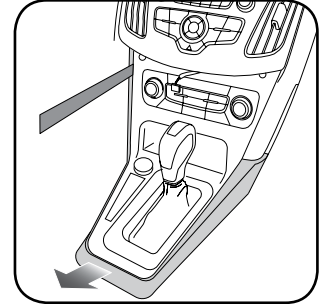

Fig. 1.2
2. Remove the trim around the shifter console by prying it up and unclipping it. (Fig. 1.2)